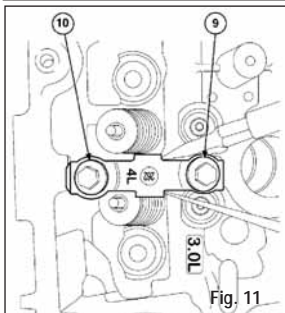

Fig. 11
5) Using a screwdriver positioned on each side of the top of cam cap number 4L (**Figure 11**, page 5) apply hand pressure and shift cam cap number 4L toward the exhaust side of the cylinder head.
6) While holding cam cap number 4L in the shifted position, torque the fasteners number 9 (inboard) first, to 72 in. lbs. (8 Nm) then torque fastener number 10 (Figure 11).